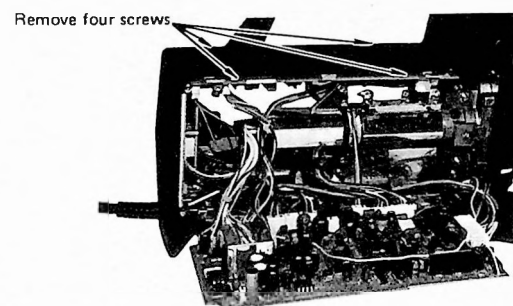

Fig. 6-1
- Remove the four screws fixing the white set circuit board. (Fig. 6-1)